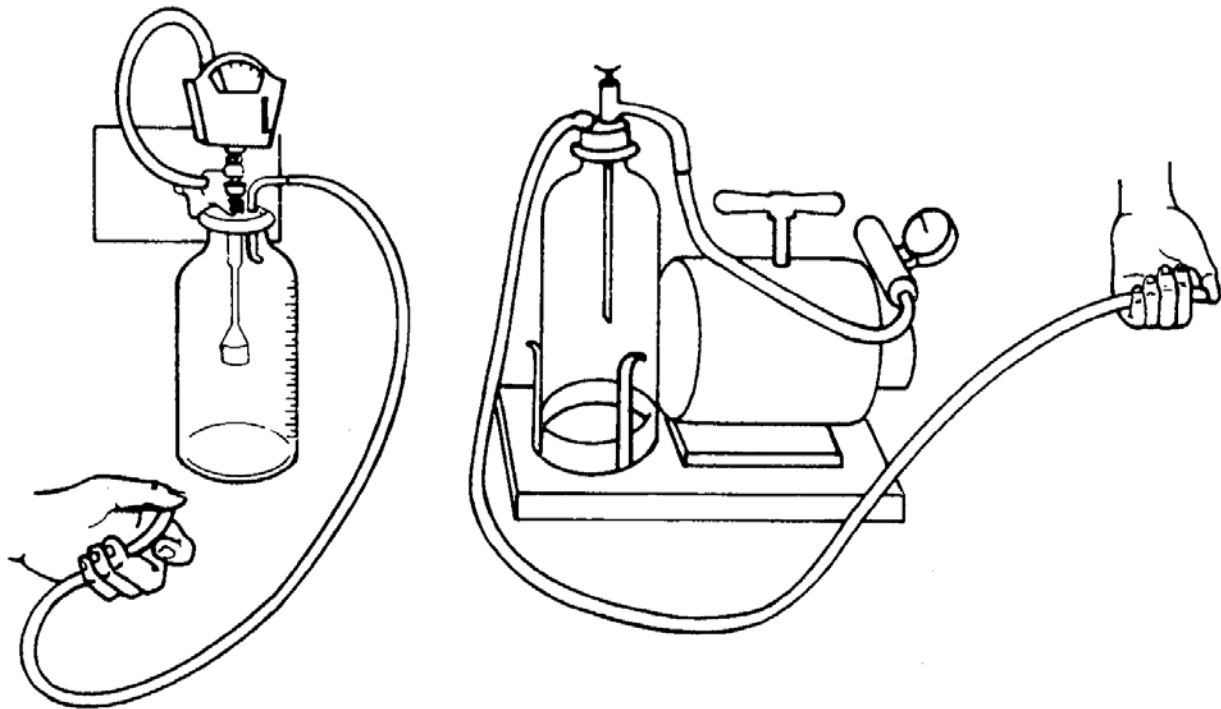

Figure 4-2. Checking pressure gauge of suctioning apparatus.
- (1) Turn on the suction apparatus.
- (2) Place a thumb over the end of the suction tubing and observe the pressure gauge (figure 4-2).
- (3) If the pressure is not within the recommended limits, notify the supervisor before continuing.
- (4) Turn off the suction unit after the correct pressure has been verified.